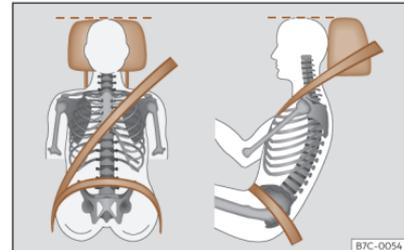

Fig. 32 Correct belt web and headrest positions
your head and under no circumstances below eye level¹⁾. Keep the back of your neck as close as possible to the headrest >>> **Fig. 32.**
- Adjust the seat lengthwise so that you can fully step on the pedals with your knees slightly bent and there is a distance between the knee area and the instrument panel of at least 10 cm (4 inches) >>> **Fig. 32.**